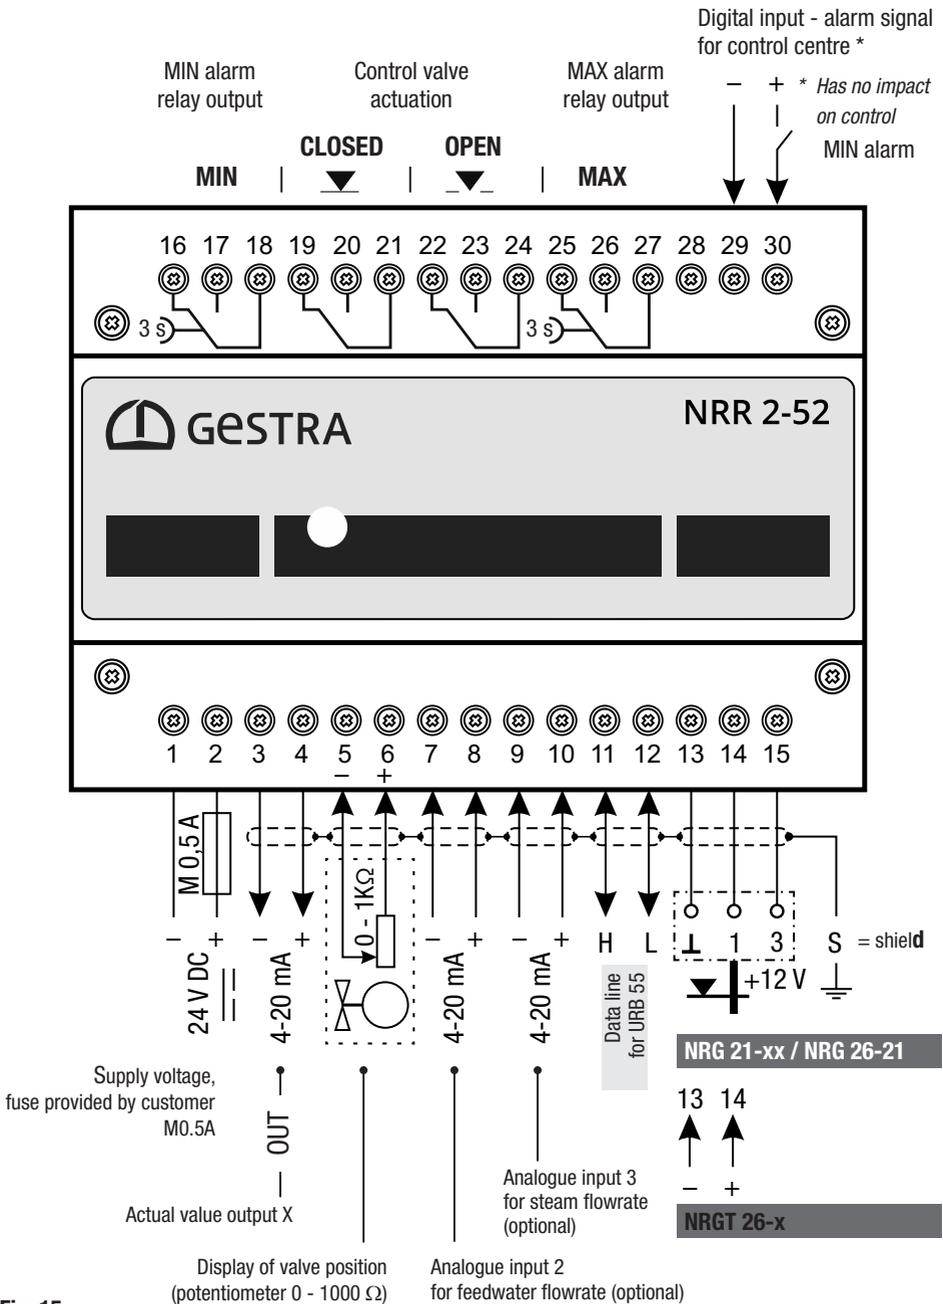
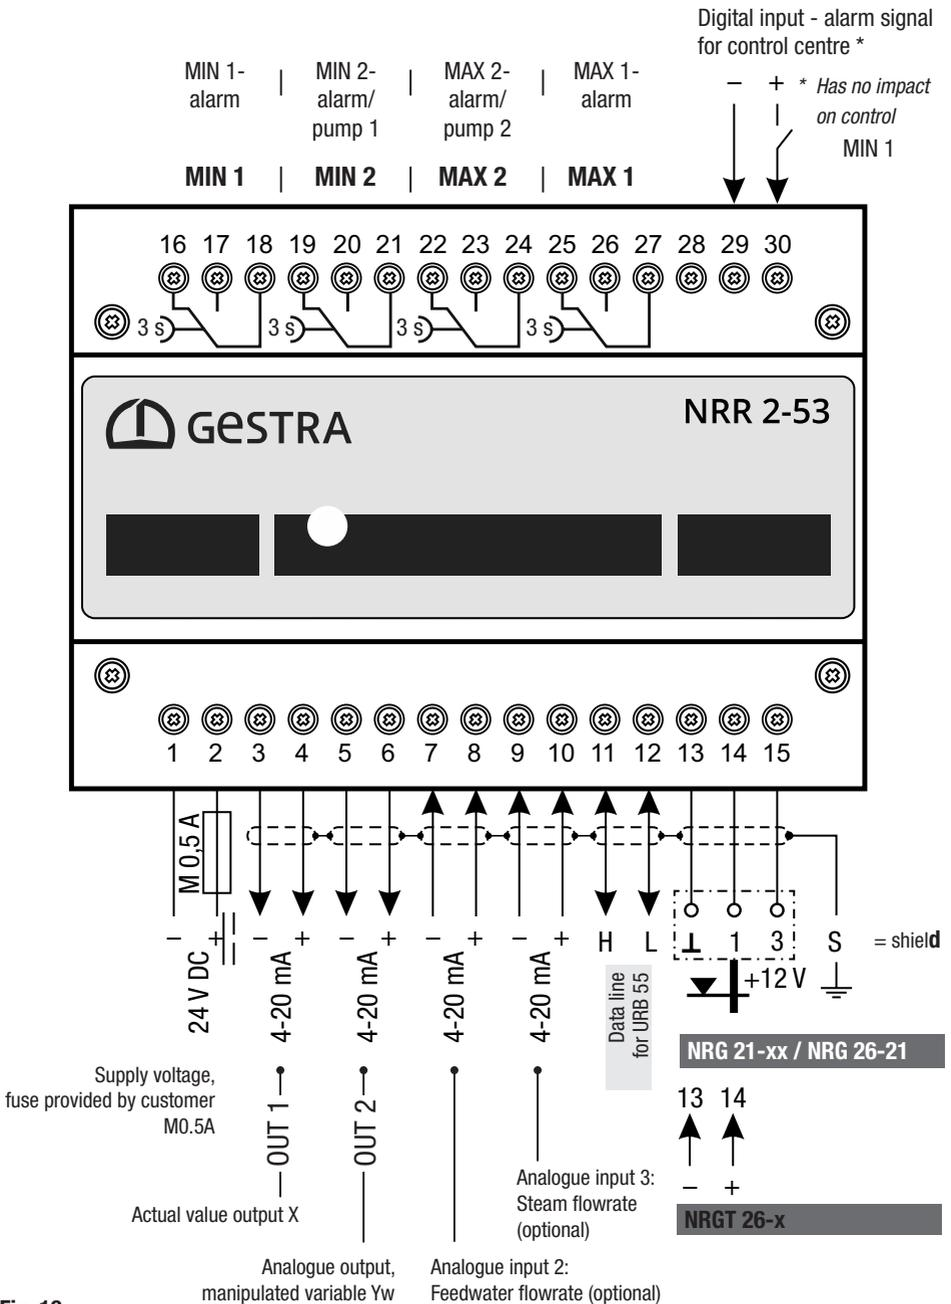

Fig. 15
Fig. 16
- Connect the level controller and all associated components as shown in the wiring diagrams in **Fig. 15** / **Fig. 16** of this Manual.
- Connect the outputs as shown in the wiring diagrams in **Fig. 15 / Fig. 16**.
A pre-wired control cable with socket is supplied for connecting the equipment. For terminal assignment, see wiring diagram **Fig. 15, Fig. 16**.
- Wire the terminal strip as shown in the wiring diagram, **Fig. 15, Fig. 16**.